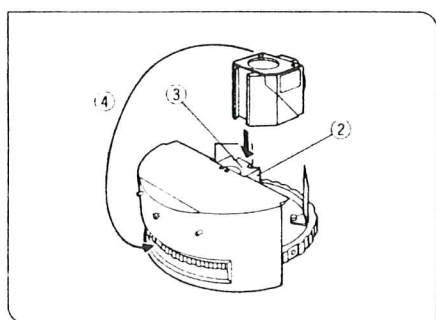

Fig. 2
The spectral characteristics of the dichroic mirror when it is positioned at an inclination of  $45^\circ$  to the optical axis of incident light is shown in Fig. 2. Because a cross-over exists between transmittance and reflectance, it is necessary to use an appropriate combination of exciter and barrier filters in conjunction with the dichroic mirror. This is necessary to achieve a good contrast image through fluorochrome excitation in the specimen, at the desired wavelength.
4. Remove the cube's magnetic index sticker **4** and affix it to the corresponding turret position. (Fig. 2)